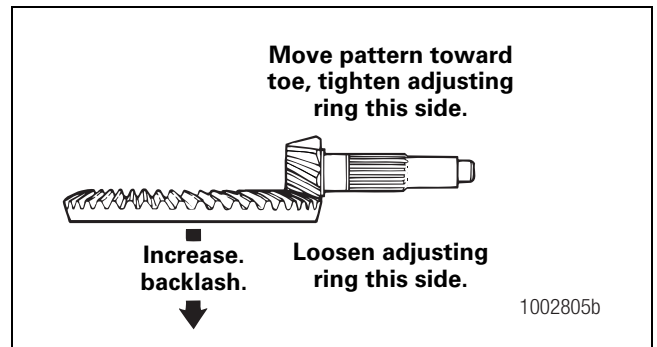

**Figure 5.56**
- **To correct a low contact pattern:** Decrease the thickness of the shim pack. When you decrease the thickness of the shim, the drive pinion will move away from the ring gear. Figure 5.56.